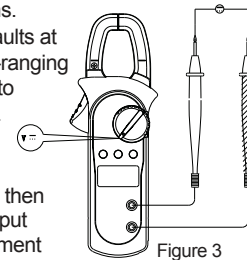

Figure 3
1. DC voltage measurement (V) (See Figure 3)